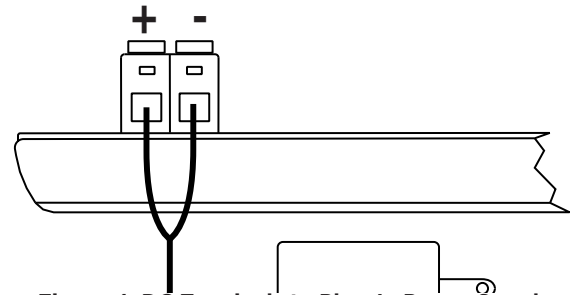

Figure 4: DC Terminals to Plug-In Power Supply
2. Connect the wiring from the power supply to the input power terminal block. Connect the black wire to the negative terminal and the black and white wire to the positive terminal. See Figure 4.